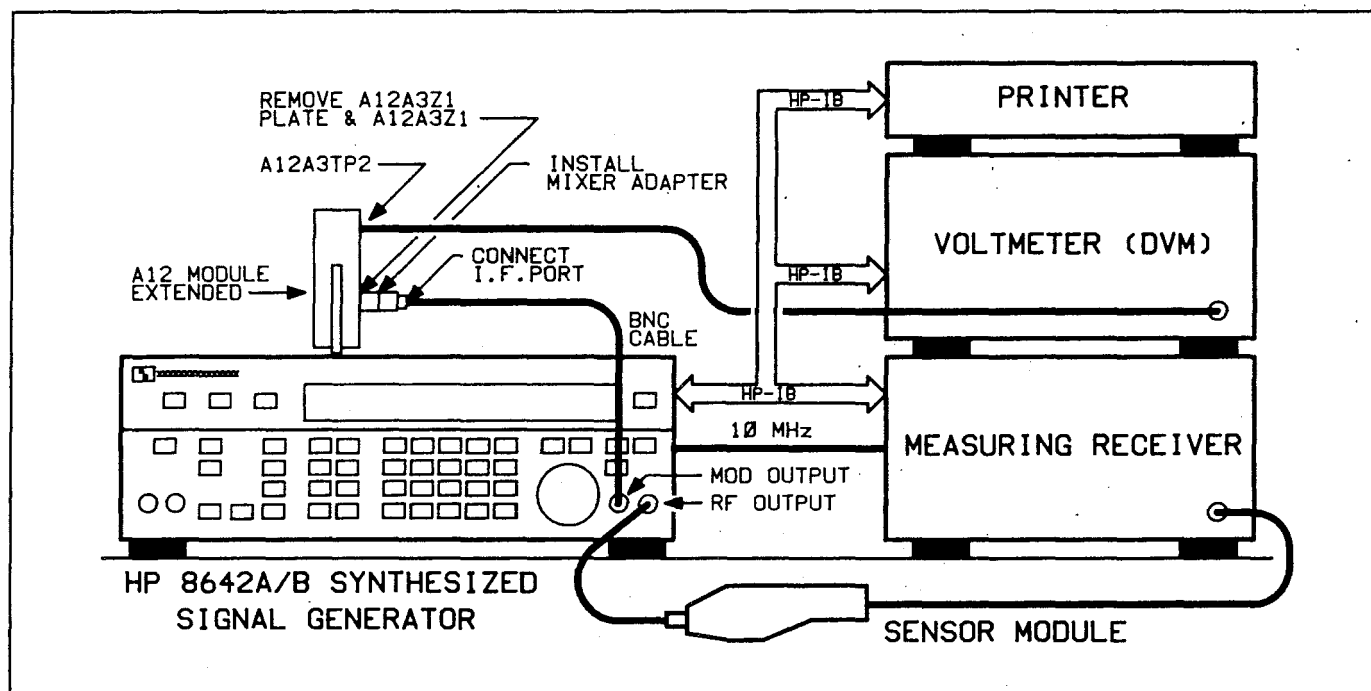

Figure 80-13. Set up 3
12. When "WAITING FOR SET-UP 3 .V26" appears: (refer to Figure 80-13 Set-up 3)